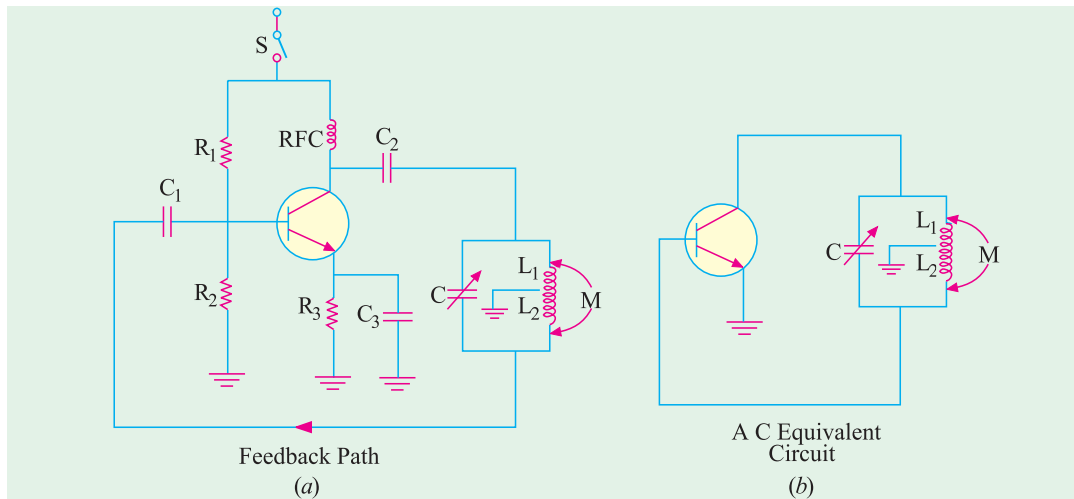

Fig. 65.8
In Fig. 65.8 (a) is shown a transistor Hartley oscillator using CE configuration. Its general principle of operation is similar to the tuned-collector oscillator discussed in Art. 65.10.
between two voltages occurs because they are taken from *opposite ends* of an inductor ( $L_1 - L_2$  combination) with respect to the tap which is tied to common transistor terminal *i.e.* emitter which is ac grounded via  $C_3$ . Since transistor itself introduces a phase shift of  $180^\circ$ , the total phase shift becomes  $360^\circ$  thereby making the *feedback positive or regenerative* which is essential for oscillations (Art 65.8). As seen, positive feedback is obtained from the tank circuit and is coupled to the base via  $C_1$ . The feedback factor is given by the ratio of turns in  $L_2$  and  $L_1$  *i.e.* by  $N_2/N_1$  and its value ranges from 0.1 to 0.5. Fig. 65.8 (b) shows the equivalent circuit of Hartley oscillator.
**Example 65.3.** Calculate the oscillation frequency for the transistor Hartley oscillator circuit (refer to Fig. 65.8). Given the circuit values:  $L_{RFC} = 0.5 \text{ mH}$ ,  $L_1 = 750 \text{ } \mu\text{H}$ ,  $L_2 = 750 \text{ } \mu\text{H}$ ,  $M = 150 \text{ } \mu\text{H}$  and  $C = 150 \text{ pF}$ .